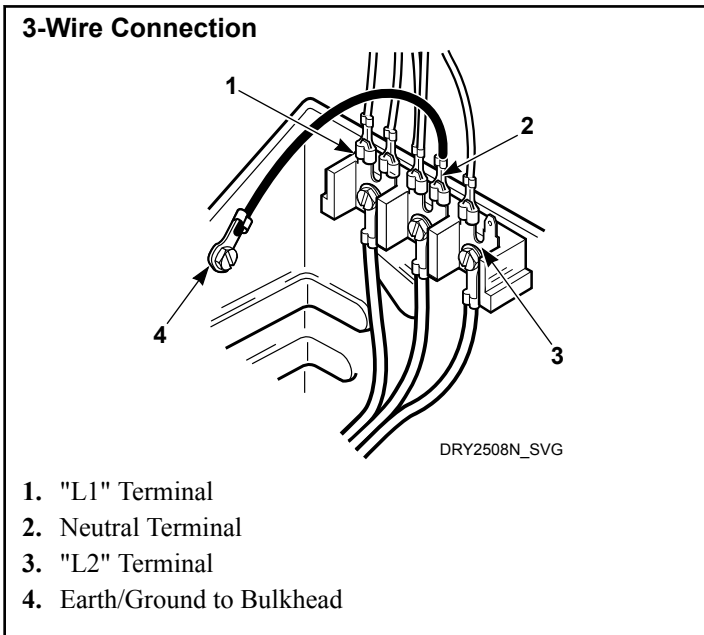

Figure 11
- Use the three screws from the accessories bag to attach the power cord wires to the terminal block. Refer to *Figure 11*.